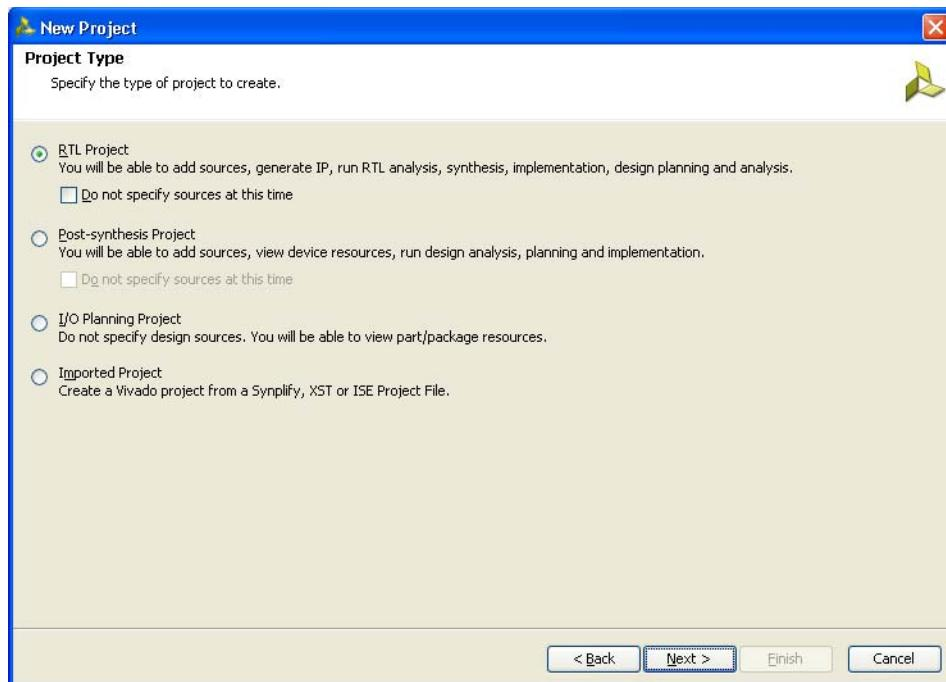

Figure 4-4: Project Type
4. Click **Next** to proceed to the **Project Type** page (Figure 4-4). Select the **Project Type** as **RTL Project** because MIG deliverables are RTL files.